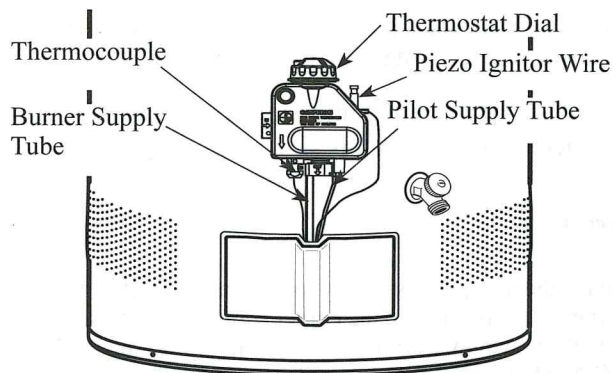

Figure 2
2. **DISCONNECTION OF THERMOCOUPLE, PILOT ASSEMBLY, BURNER SUPPLY TUBE AND PIEZO WIRING FROM THE COMBINATION GAS CONTROL:** Using a 3/8" open-end wrench, disconnect the thermocouple from the combination gas control. Using a 7/16" open-end wrench, disconnect the pilot supply line from the combination gas control. Using a 3/4" open-end wrench, disconnect the burner supply tube from the combination gas control. (LP water heaters have left hand threads.) Locate the piezo wiring and carefully pull apart the connection. See Figure 2.